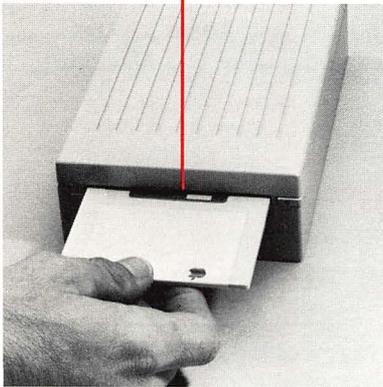

Figure 1-2
- Figure 1-2 Inserting a 3.5-inch disk 2